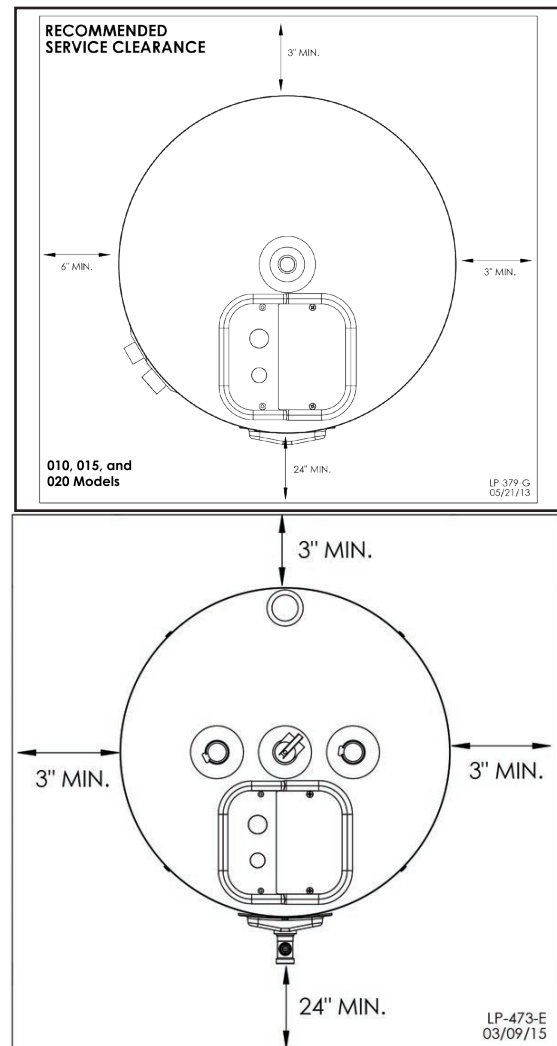

Figure 1 - Recommended Service Clearances - NOTE: Overhead View Not Representative of All Models
**NOTE:** If you do not provide the minimum clearances shown in Figure 1, it might not be possible to service the water heater without removing it from the space.